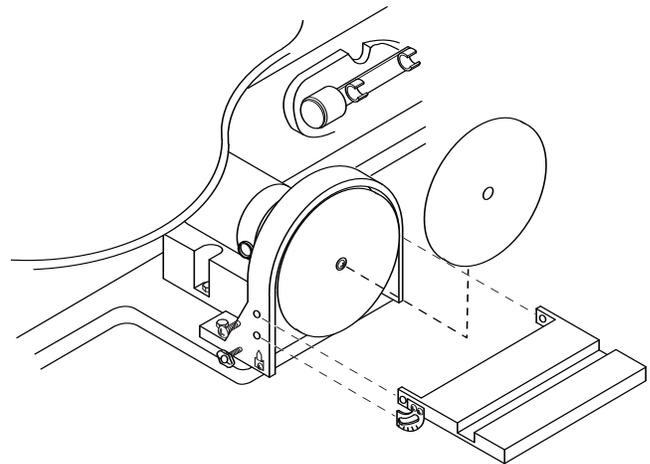

Figure 15. Removing and Installing Abrasive Discs
1. Loosen the table lock knob, and the saw table can be tilted to the left and locked at any angle from 0° horizontal cutting position up to 45° for bevel cutting (Figure 15). Your tool also features table tilt detents which audibly click into place to the left every 15°. The table may be tilted to the right up to 5°.
The disc furnished with the sander is self-adhesive type. Refer to Figure 15.